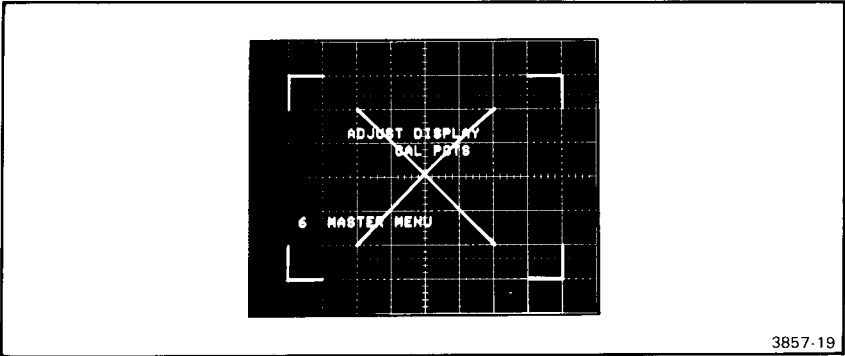

Figure 2-11. Correctly adjusted DISPLAY CAL PATTERN.
Step 6 When you are satisfied the display is properly aligned with the graticule and the vector display is adequately compensated as shown in Figure 2-11, press MEMORY DISPLAY key 6 to return the MASTER MENU to the display. Press the MENU key to extinguish the MENU display and proceed with the following instructions.